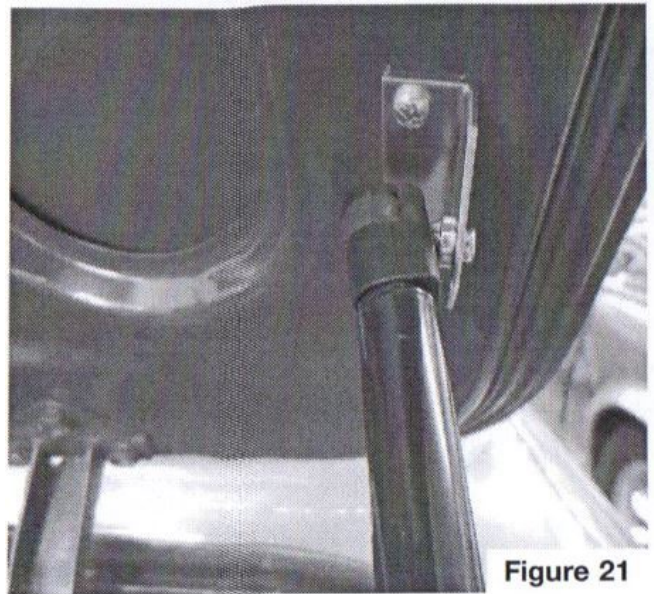

Figure 21
21. Install the top mount bracket with the two included self-tapping screws. Refer to figure 21.